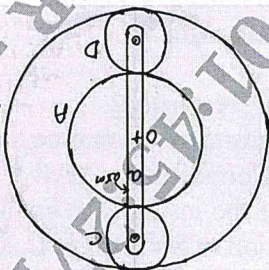

Fig. Q8 (b)
b. An epicyclic gear train is shown in Fig. Q8 (b). The number of teeth on A and B are 80 and 200 respectively. Determine the speed of the arm 'a',